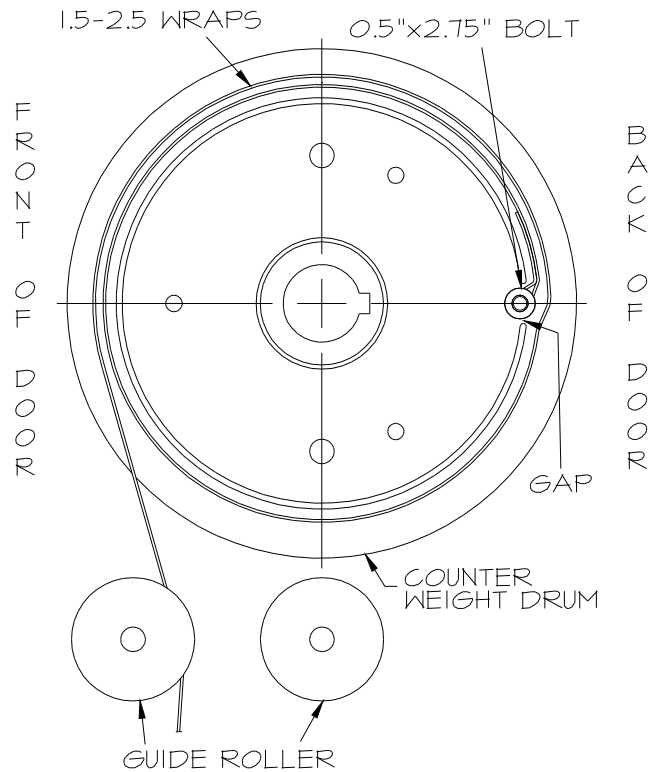

FIG. 10
- c. **Unwind Door until gap is centered at back** of door (Figure 10).
- Wrap Strap around Counterweight Drum **at least 1-1/2 and no more than 2-1/2 times** (Figure 10).